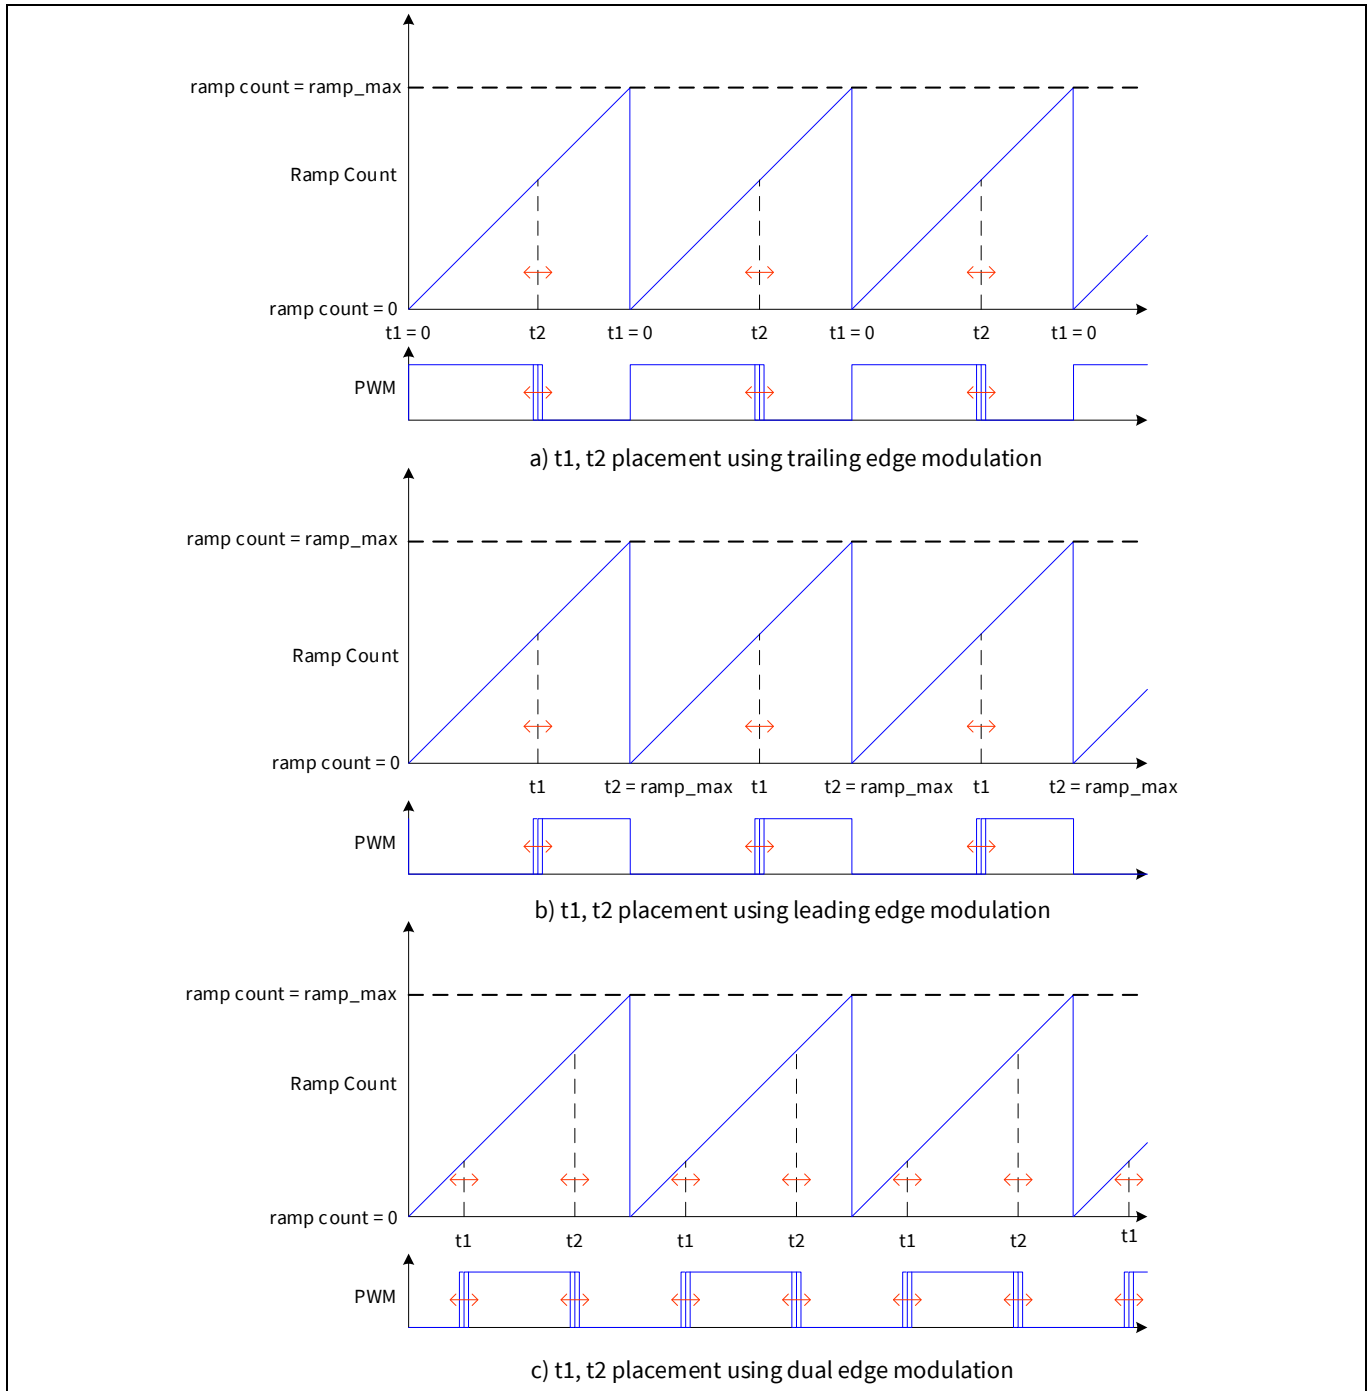

Figure 17 T1 and t_2 placement for TE (a), LE (b) and DE (c) modulations.
VMC supports trailing-edge (TE) modulation, leading-edge modulation (LE), and dual-edge modulation (DE) for non-resonant topologies as shown in **Figure 17**. It only supports trailing-edge modulation for LLC topologies. The modulation mode is configured by register rampX_m_flavor.
The first modulation waveform in **Figure 17 a)** shows the trailing edge (TE) modulation case. The PWM pulse has a fixed leading edge and a modulated trailing edge.
The second modulation scheme is leading edge (LE) modulation, shown in **Figure 17 b)**. The PWM pulse has a fixed trailing edge and a modulated leading edge.
The last modulation scheme is dual edge (DE) modulation, shown in **Figure 17 c)**. In this modulation, the timing markers t_1 and t_2 are both modulated.